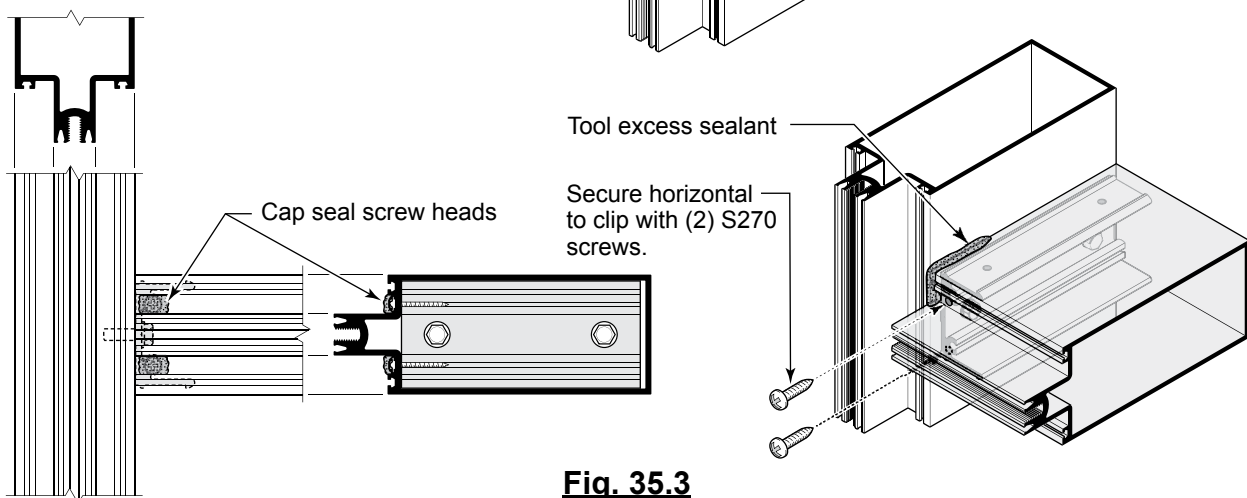

Fig. 35.3
- Tool sealant at the horizontal/vertical intersection. See **Fig. 35.3**.